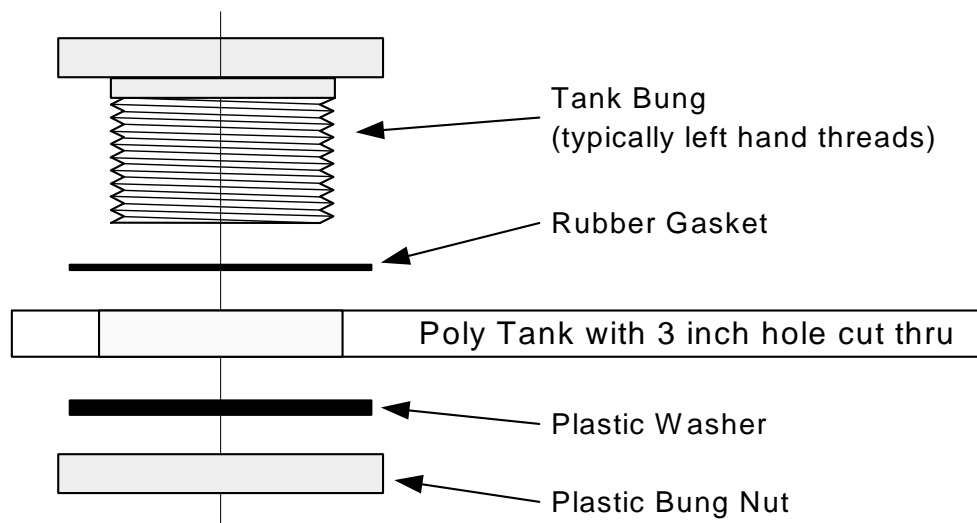

Figure 3
- 5) The 2 inch Plastic Bung Kit may now be installed. The Bung need only be tightened by hand. Refer to Figure 3 for proper assembly.